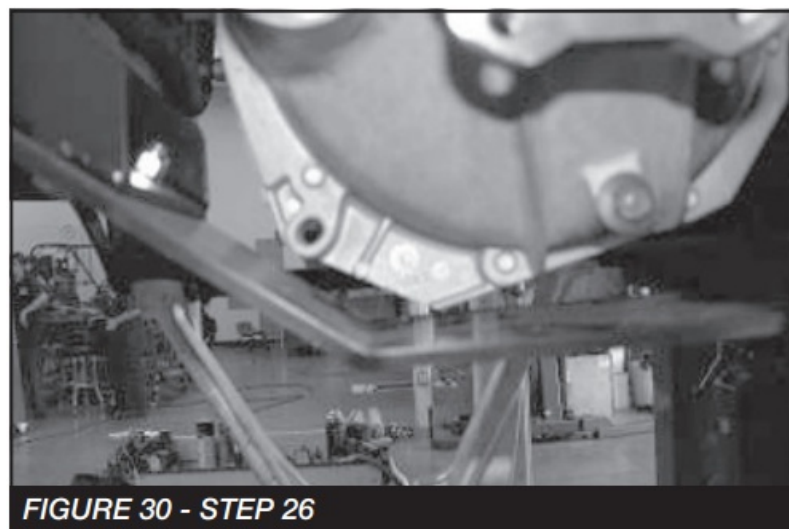

FIGURE 30 - STEP 26
26. Locat the FT20304 Skid Plate and the supplied 1/2" x 1-1/4" hardware and attach the rear of the skid plate to the bottom of the rear crossmember. Use the supplied 7/16" x 1 1/4" hardware and attach the front of the skid plate to the front crossmember (MAKE SURE THAT THE DIFF IS CLEARANCED ENOUGH TO CLEAR THE SKID PLATE). SEE FIGURE 30